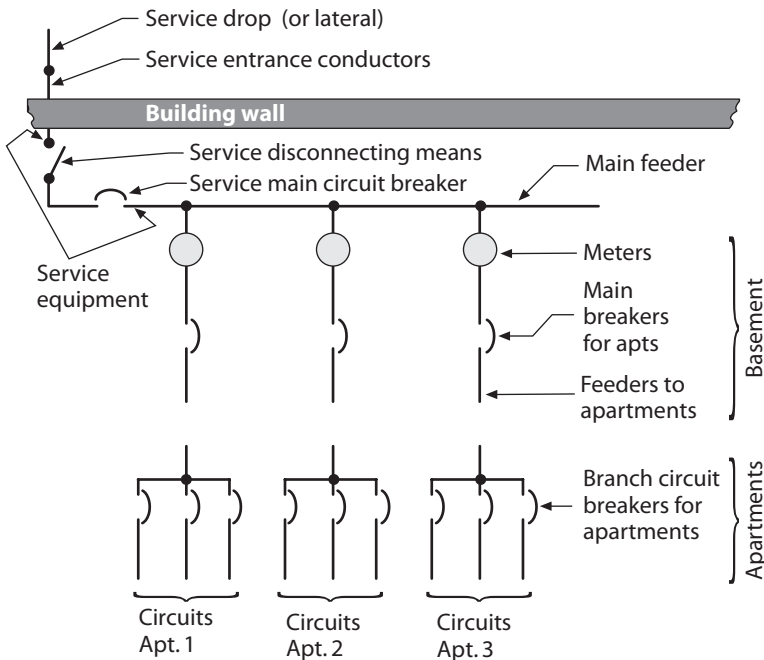

Fig. 25-1 Service equipment in a common, accessible location.
Determining wire size The wires to the overcurrent devices in individual apartments are feeders. But if actual service equipment is installed in each unit (see Fig. 25-3) instead of a common service at a common location (see Figs. 25-1 and 25-2), the supply wires are subsets of service-entrance wires. In either case, the ampere load (and therefore the wire size) is determined as described for service-entrance wires in the page 234 topic on selecting service-wire size. Allow 3 VA per sq ft of area for lighting including the usual receptacles; add 3,000 VA for the two required small-appliance circuits; if laundry equipment is installed in the individual apartment, add 1,500 VA. Total all the above, count the first 3,000 VA at 100% demand factor, the remainder at 35% demand factor. Then add the volt-amperes rating of individual circuits to appliances such as range, air conditioner, dishwasher, and you will have the total computed volt-amperes. For an 800-sq-ft apartment, your calculation would look like this:
According to *NEC* Table 310.15(B)(16), 8 AWG wire is the smallest that may be used for 32 amps, but only if the wiring is as shown in Figs. 25-1 or 25-2, where the wires to the apartment are feeders. If installed as shown in Fig. 25-3, they are subsets of service-entrance wires, and *NEC* 230.42(B) and 230.79(D) require that they be a minimum of 6 AWG (technically, having an ampacity of 60; however, since no termination on this equipment would likely be listed for use above 75°C, this becomes the basis for the wire size; also see the page 109 discussion on termination temperatures).